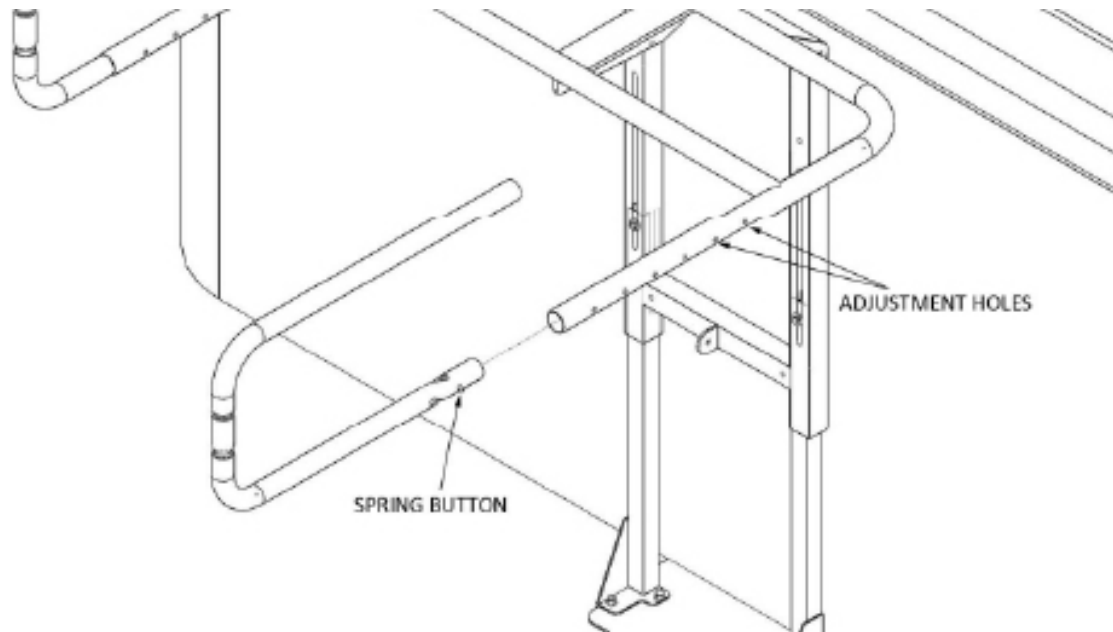

Figure 8
- 8 Attach the left and right U-Arm assemblies to the open tubes of the ccEE Pivot Arm using the spring buttons. Use the hole that will allow the U-Arms to swing as low as possible, without hitting the ground. See Fig 8.